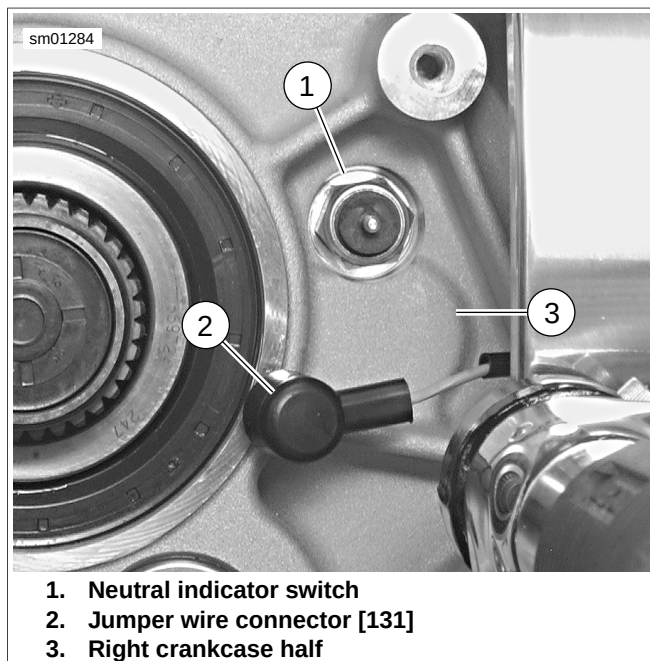

Figure 6-106. Neutral Indicator Switch: All Models (XL Shown)
5. See Figure 6-106. Unplug jumper wire connector (2) from neutral indicator switch (1). Remove switch with washer from right crankcase half (3).